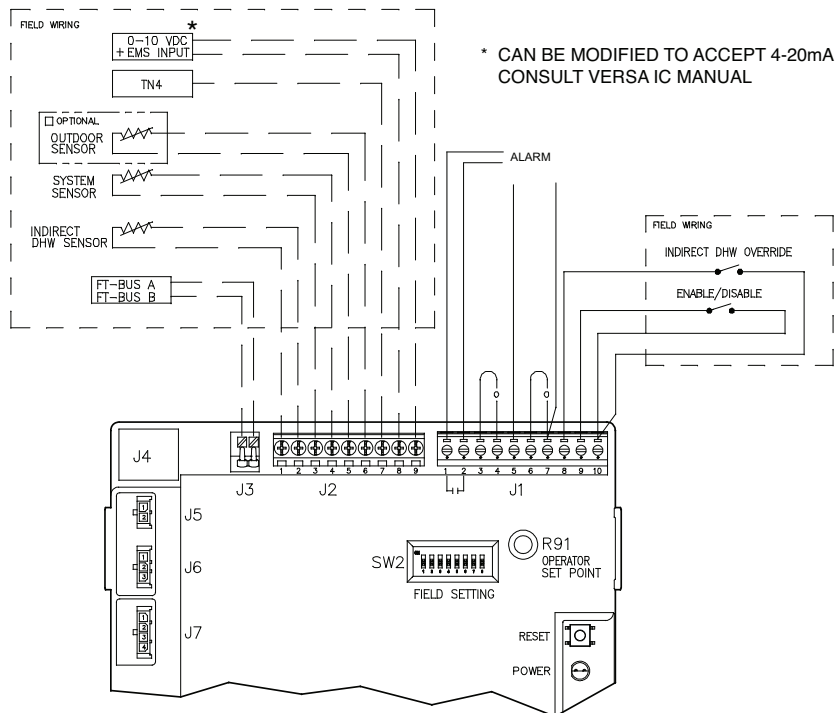

Fig. 16: XFyre Single Heater Control
Connect the Enable/Disable terminals to the PIM (shown in Fig. 16). Alternately, any dry contact closure (including a remote thermostat) across these terminals will enable the XFyre unit to run. Caution should be used to ensure neither of the terminals becomes connected to ground.
2. To enable this remote control function, set dip switch 5 to the UP position on the PIM. Dip switch 5 Toggles between an EMS (UP) signal or a demand signal from the VERSA (DOWN). Dip switch 2 on the PIM toggles between a Direct Drive (UP) input and a Target Temperature (DOWN) setpoint.
4. Connect an Energy Management system or other auxiliary control signal to the terminals marked 0-10V (+/-) on the PIM (see Fig. 16). Caution should be used to ensure that the +0-10V connection does not create a short to ground.
3. Connect the system supply sensor to terminals 3 and 4 on the J2 connector located on the Master PIM (See Fig. 16).
4. Connect the Outdoor sensor (if used) to terminals 5 and 6 on the J2 connector located on the Master PIM (See Fig. 16).
5. Connect the Enable/Disable wiring to terminals 9 and 10 on the J1 connector located on the Master PIM (See Fig. 16). This connection must be provided through dry contacts closure.